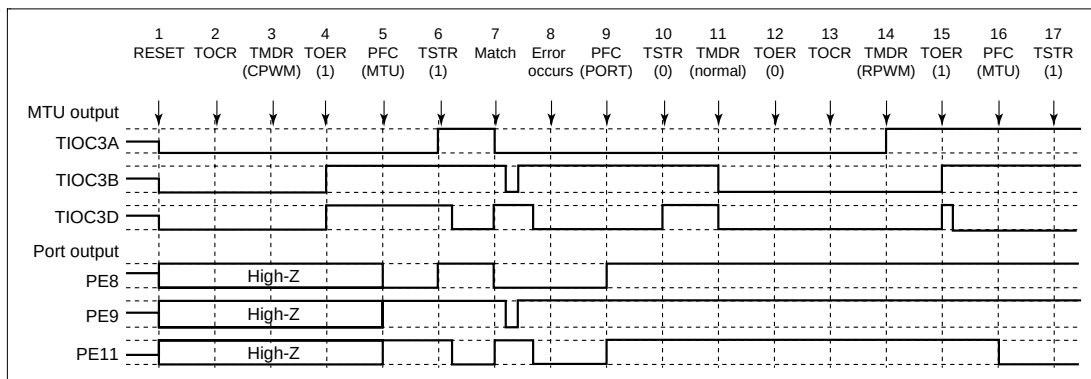

**Figure 12.120 Error Occurrence in Complementary PWM Mode,
**(24) Operation when Error Occurs during Complementary PWM Mode Operation, and Operation is Restarted in Reset-Synchronous PWM Mode:** Figure 12.120 shows an explanatory diagram of the case where an error occurs in complementary PWM mode and operation is restarted in reset-synchronous PWM mode.